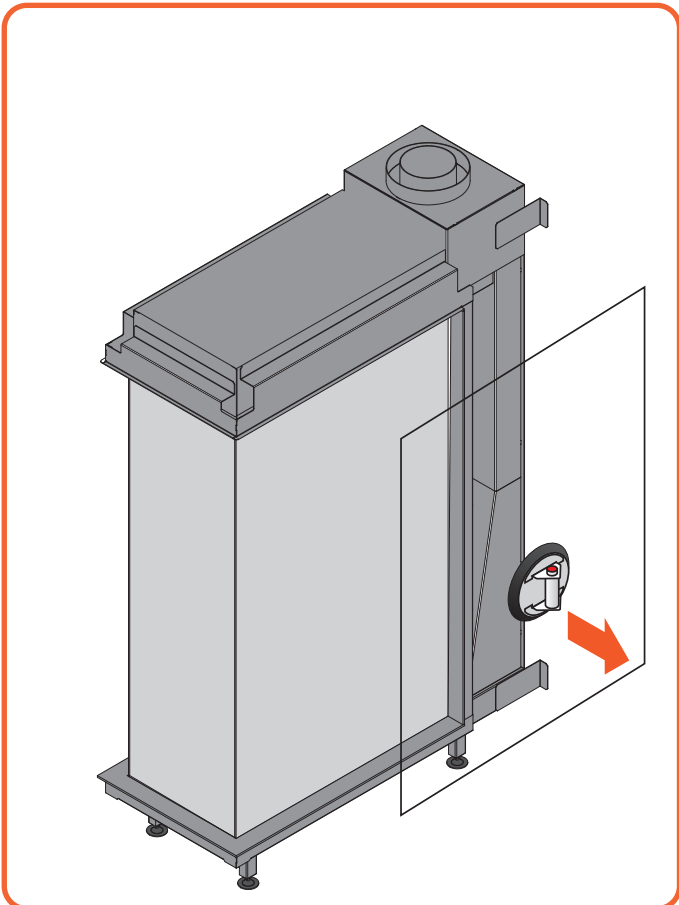

Figure 12.7 | Carefully lift the glass out of the fireplace
- Place the Suction cups on the glass and make sure they are fixed securely, see Figure 12.7